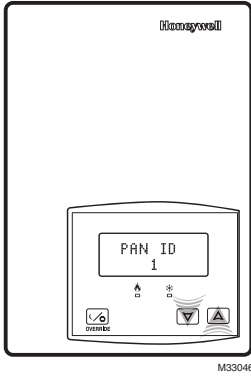

Fig. 3. Assigning PAN ID.
5. Assign the PAN ID with the up/down arrows on the right, as shown in Fig. 3. Both devices should be assigned the same PAN ID.